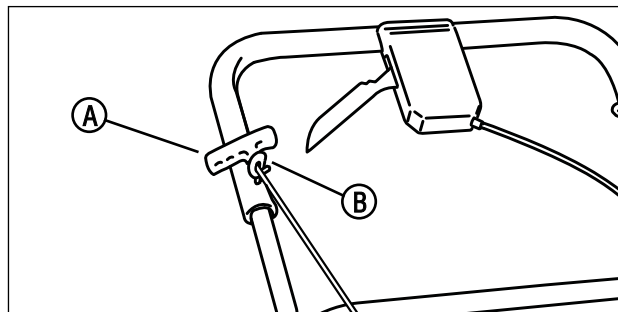

Figure 3: Attaching the recoil-start grip
5. Hold the engine stop lever against the handle. (Refer to section entitled 'Engine Stop Lever'.) Slowly pull the recoil-start grip (**A**, **Figure 3**). To attach the recoil-start grip to the rope guide (**B**), twist the rope through the rope guide mounted on the right side of the handle.